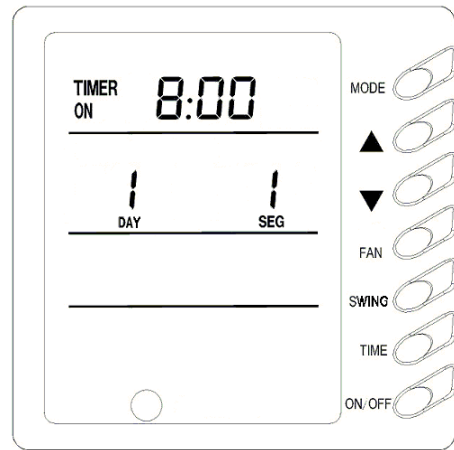

Fig.10
- ❖ In timing setting mode, press MODE button to select any desired setting object: Week (1-7), timer interval (1-4), timing (Timer on or Timer off time), min. part or hour part of time, and then press ▲ or ▼ button to adjust this object, which is fixed by pressing TIMER button or can be canceled by pressing Timer again. During fixing setting there must be blinking characters. During canceling setting, if there are also blinking characters, setting can be continuous till quit It by pressing ON/OFF button; meanwhile, timing data are memorized. (Fig.10, 11)